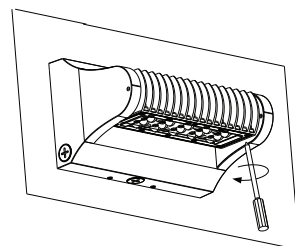

Figure 4
4. Adjust the emitter to the desired angle and tighten the locking screw. (Figure 4)